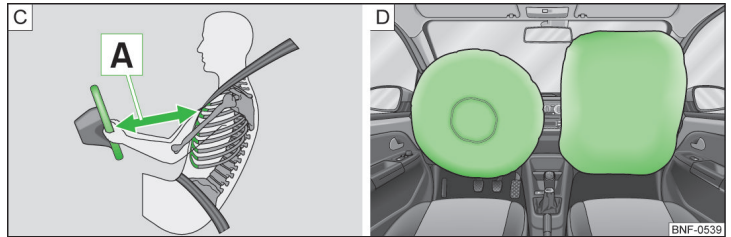

Fig. 8 Safe distance to steering wheel/gas-filled airbags
When the airbags are deployed, they inflate in front of the driver and front passenger » Fig. 8 - [D]. The forward movement of the driver and of the front passenger is cushioned when they make contact with the fully inflated airbag and the risk of injury to head and chest is thus reduced. ▶
- For the driver and front passenger, it is important to maintain a distance of at least 25 cm to the steering wheel or dashboard **A** » Fig. 8. Not maintaining this minimum distance will mean that the airbag system will not be able to properly protect you – hazard! The front seats must always also be correctly adjusted to match the body size of the occupant.